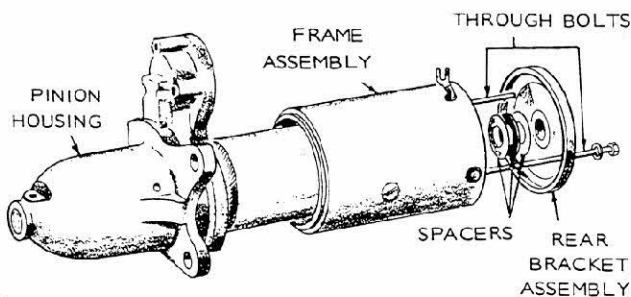

FIGURE 31. SOLENOID SHIFT STARTER
3. Remove the starter motor thru-bolts and divide the starter into three main assemblies — the front bracket, the housing, and the rear bracket. On some model starters, short screws are used to hold the three starter sections together (Figure 31). The spacers on the solenoid starters are used for adjustment of the thrust gap of the armature shaft and are located between the rear bracket and the commutator shaft.